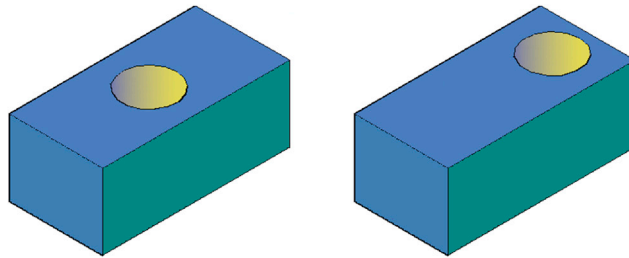

FIGURE 25.17 Move faces, before and after.
Step 2. AutoCAD shows the same lengthy solid editing menu (not reproduced here) and asks you to select the faces (the hole). From there, the command is exactly like a regular move command. It asks for a base point to move from and a second point to move to. Be sure to have Ortho on when doing this. On completion, the hole is moved, as seen in Fig. 25.17.